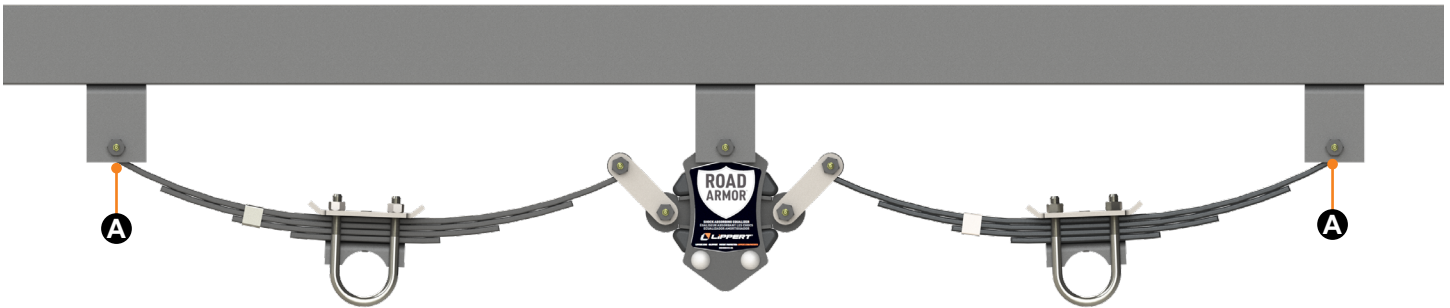

Fig.5
11. Remove the jack stands and lower the trailer evenly to the ground. Make sure the shackle links are upright and located approximately in the 10 o'clock and 2 o'clock positions (Fig.5).
12. The Lippert Road Armor installation is complete (Fig.5).